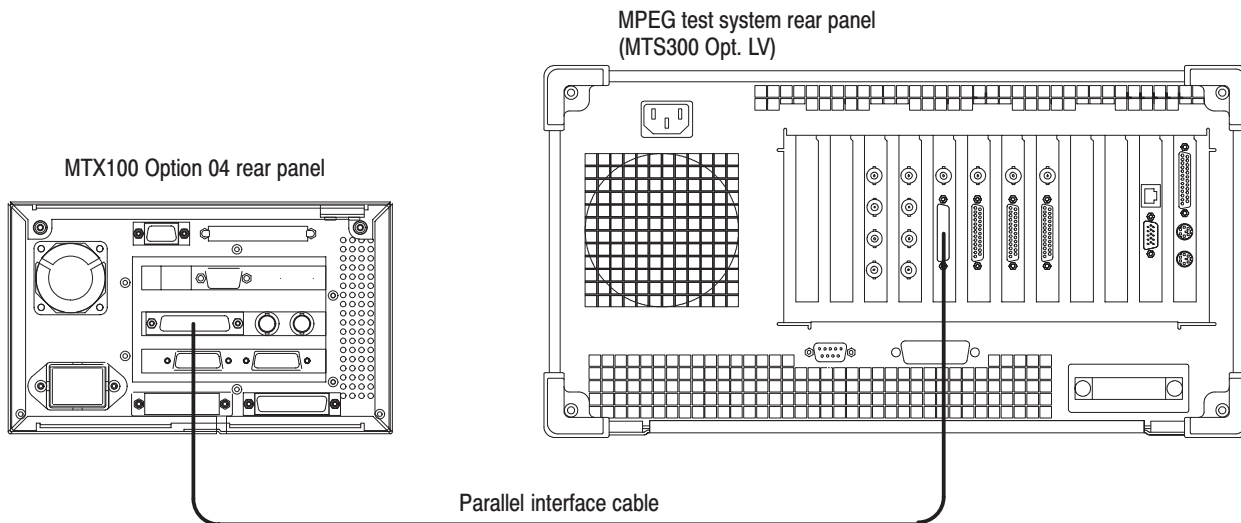

Figure 4-19: Third equipment connection for verifying the DHEI interface
52. Use the parallel interface cable to connect the SPI IN/OUT connector on the MTX100 Option 04 to the SPI (LVDS) 3 IN connector on the MPEG test system as shown in Figure 4-19.